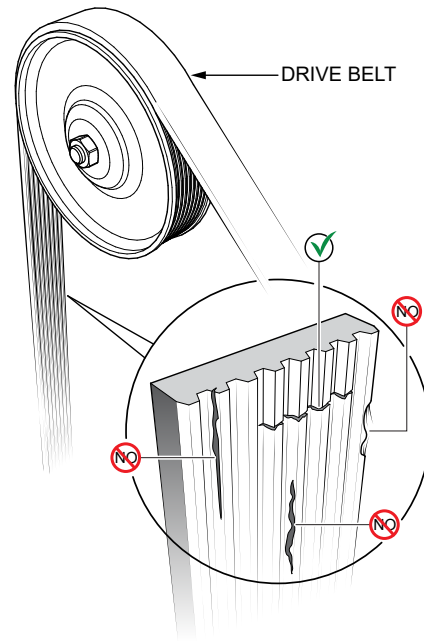

Figure 72. Drive Belt Inspection
1. Inspect the **drive belt** (Figure 72) for damage and wear. Horizontal cracks (across the belt) are acceptable. Vertical cracks (direction of belt ribs) that intersect with horizontal cracks are not acceptable.